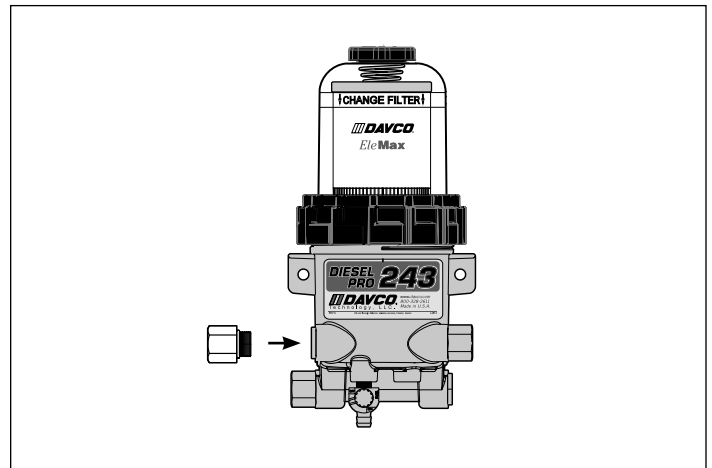

Figure 3
3. Install the bushing into the heater port. Torque to 15-30 ft-lb (see Figure 3).